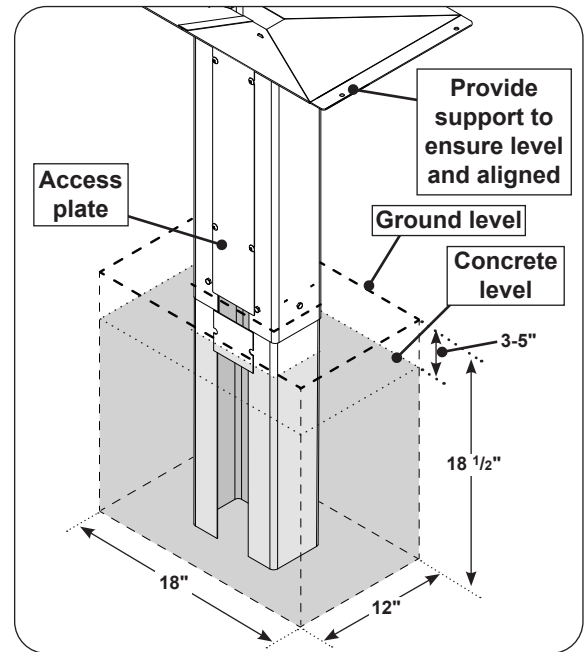
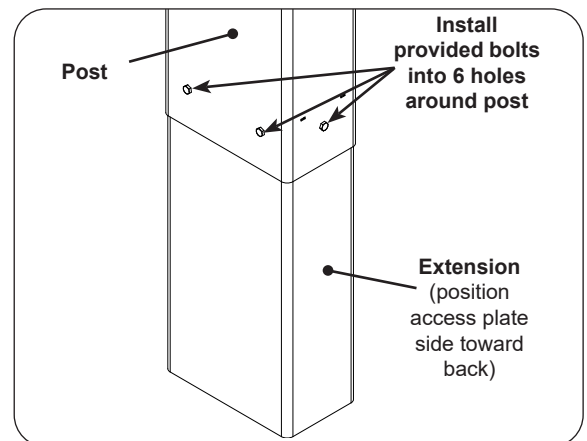
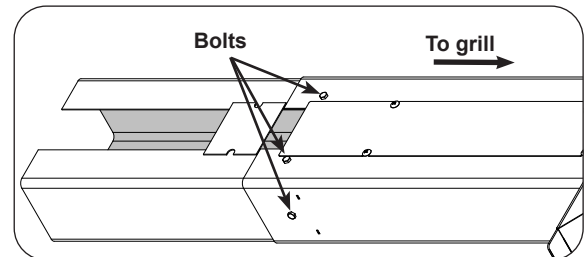

Fig. 29-1 Installation overview
Fig. 29-2 Install extension to post
Fig. 29-3 Fasten extension to post
1. Attach the extension to the bottom of the grill post so that the open portion is facing the same direction as the access plate and the six holes in the extension line up with the six (6) weld-nuts in the post (see Fig. 29-1 and Fig. 29-2).
2. From outside the joined post and extension, insert one of the $\frac{1}{4}$ " - 20 X $\frac{1}{2}$ " bolts (supplied) into each of the six (6) bolt holes and tighten each bolt using a $\frac{7}{16}$ " socket driver or wrench (see Fig. 29-2 and Fig. 29-3).
1. Dig a hole for the post and extension approximately 18" wide, 12" front-to-back, and 18 $\frac{1}{2}$ " deep. See Fig. 29-1.
3. Carefully orient the post into the installation hole and verify proper positioning. See Fig. 29-1.